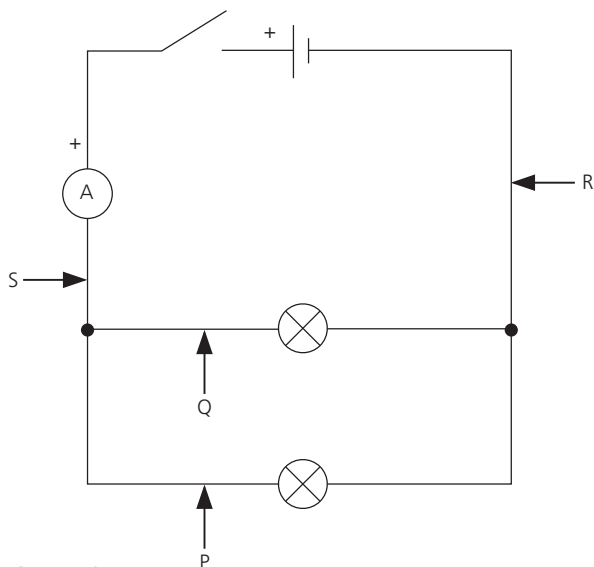

Figure 3
- 3 a Connect the two lamps *in parallel* with one cell as shown in Figure 3. When the switch is closed and both lamps are on, record the current passing through the ammeter at S in Table 1.